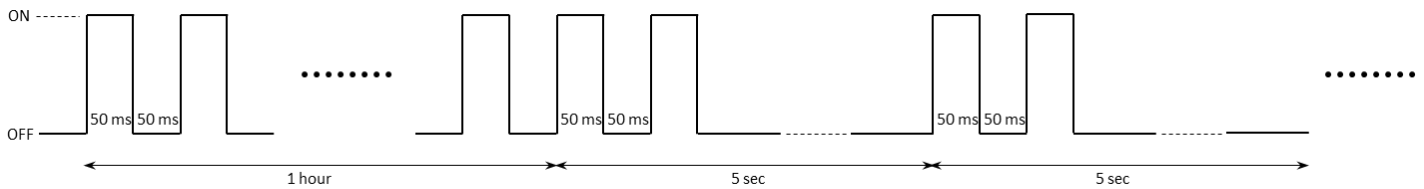

Figure 1-7: The GREEN LED Pattern During the Join Procedure
- a. **GREEN** is toggled ON and OFF every 50 ms for the first hour. After that, it only flashes twice (ON time: 50 ms, OFF time: 50 ms) every 5 sec. This scheme has been shown in Figure 1-7.